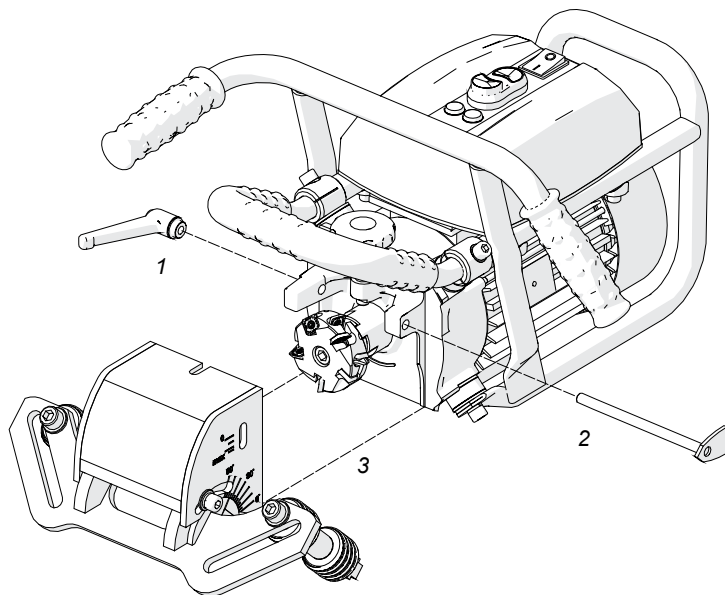
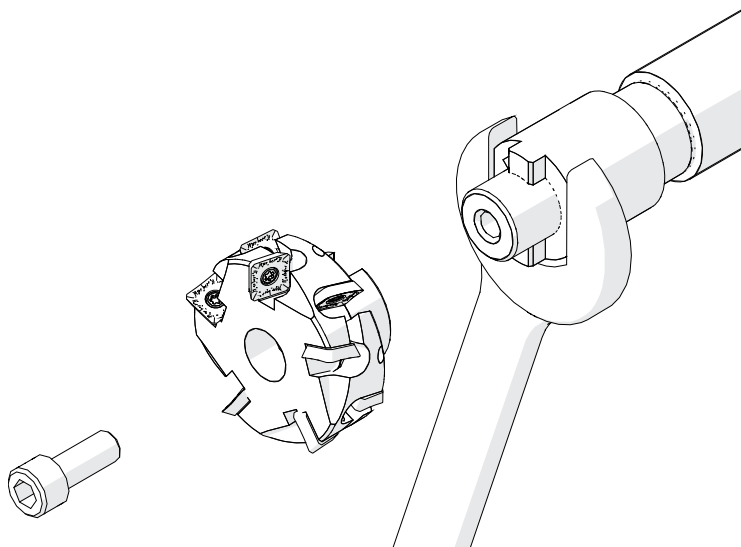

Fig. 11. Removing the milling head cover
Fig. 14. Replacing the milling head
Unplug the machine from the power source. Remove the lever (1, Fig. 11), the indicator (2), and the milling head cover (3).
Remove the milling head cover as shown in Fig. 11. Use the 32 mm flat wrench to prevent the turn of the spindle (Fig. 14). Then, use the 8 mm hex wrench to remove the screw, and remove the milling head. The 32 mm flat wrench is not included in standard equipment.